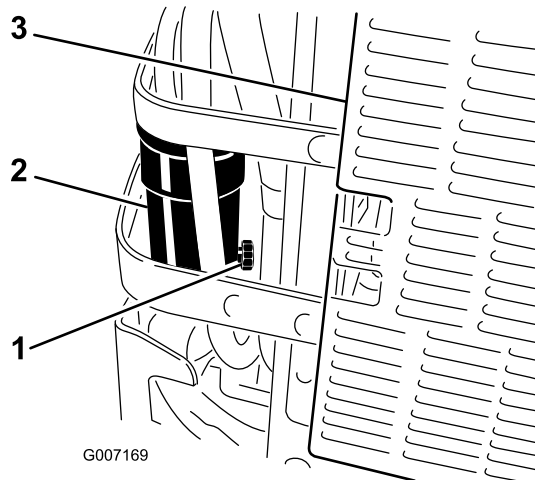

Figure 17
6. Open the drain valve on the water separator approximately one turn to allow water and other contaminants to drain (Figure 17).
7. Close the drain valve when only diesel fuel comes out (Figure 17).